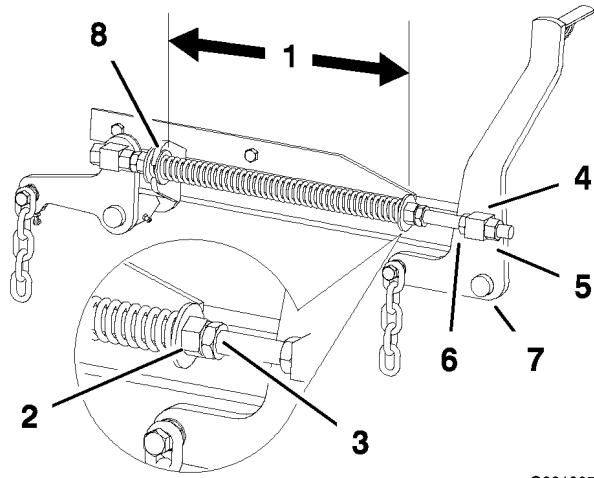

Figure 79
2. Check the distance between the two large washers, it needs to be 11-1/2 inches (29.2 cm) (Figure 79).
3. Adjust this distance, by loosening the spring jam nut and turning the nut in front of each spring (Figure 79). Turning the nut clockwise will shorten the spring; counter-clockwise will lengthen the spring.
4. Lock the nut into position by tightening the spring jam nut (Figure 79).